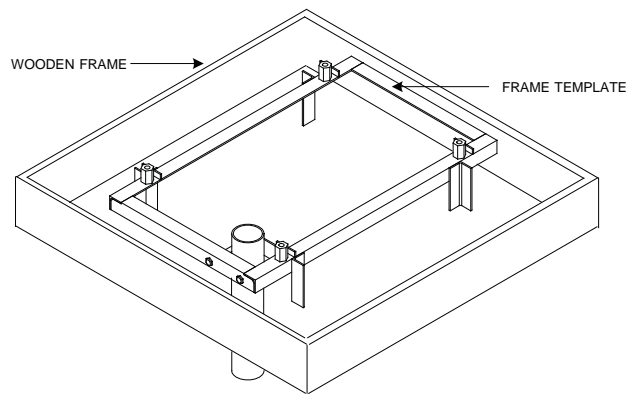

Fig. 3-2, Pad frame and mounting template CE-3x2 5.0 kW
1. Lift the enclosure with a lifting apparatus rated in excess of 500 lbs. Configure the lifting arrangement so the distance from the top of the cabinet to the lift ring or hook is at least twice the distance between the lifting ears (Fig. 3-2).